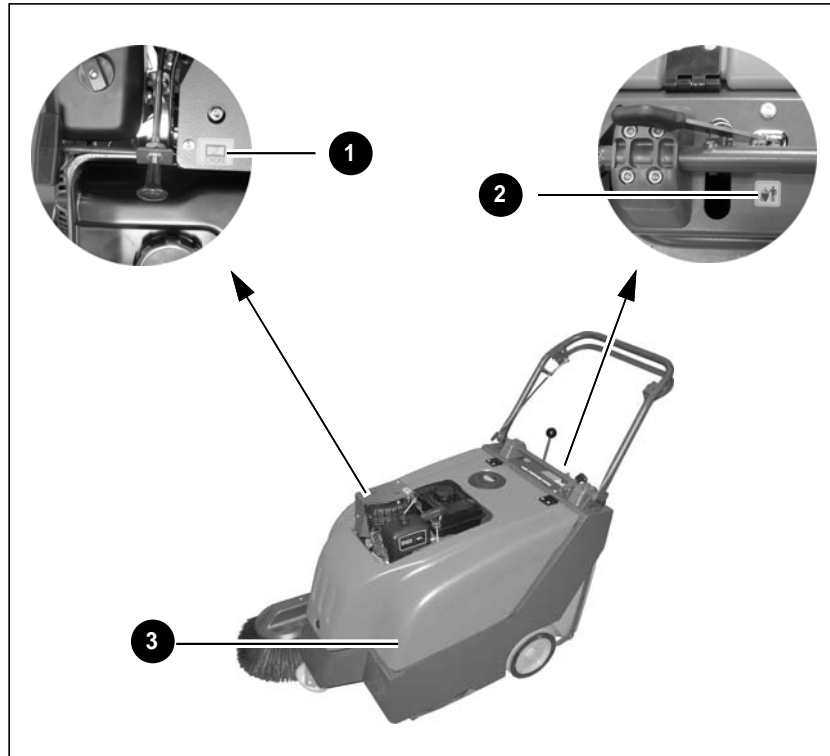

Fig. 1
**Choke** (Fig. 1/1)
(Fig. 1/2)
**Company logo** (Fig. 1/3)